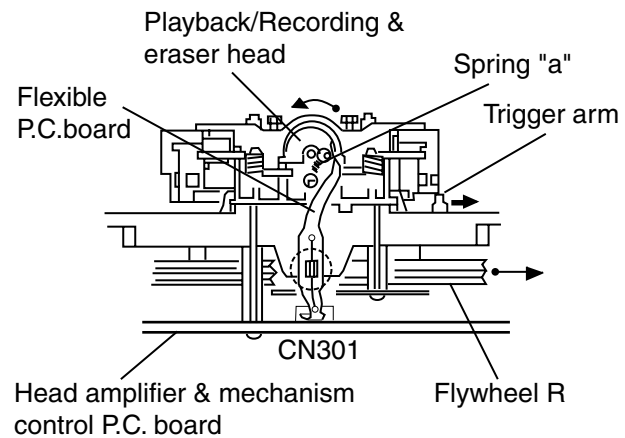
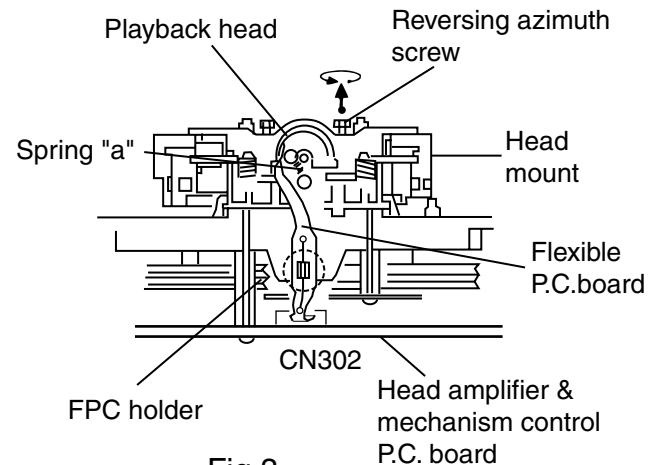

Fig.2 (Mechanism A side)
Fig.3 (Mechanism B side)
2. When the flywheel R is rotated in counterclockwise direction, the playback / recording & eraser head will be turned in counterclockwise direction from the position in Fig.2 to that in Fig.3.
● **Reassembling the playback, recording and eraser heads (See Fig.3)**
1. Reassemble the playback head from the front of the head mount to the position as shown in Fig.3.
4. Attach the flexible P.C.board to the chassis base as shown in Fig.3.